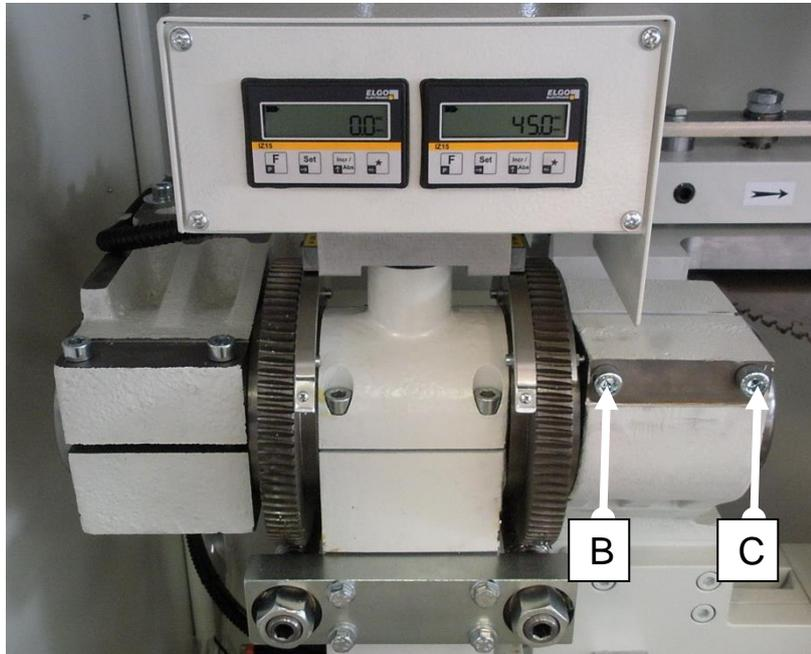

FIG.11
- Loosen screws B and C (Fig.11) with spanner in equipment
- Lock screws B and C (Fig.11) with spanner (Fig.11).